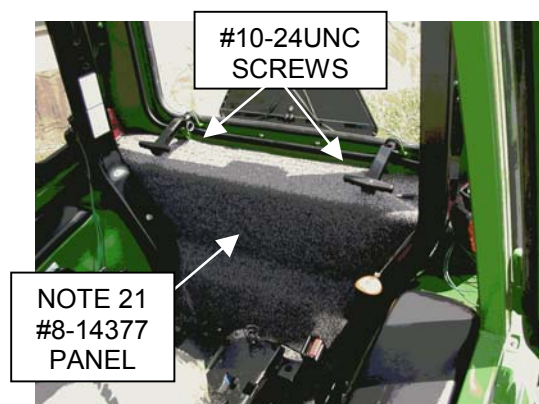

Figure 21
- 21) Install rear seal panel and secure using (2) #10-24 x 5/8" bolts. See Figure 21.